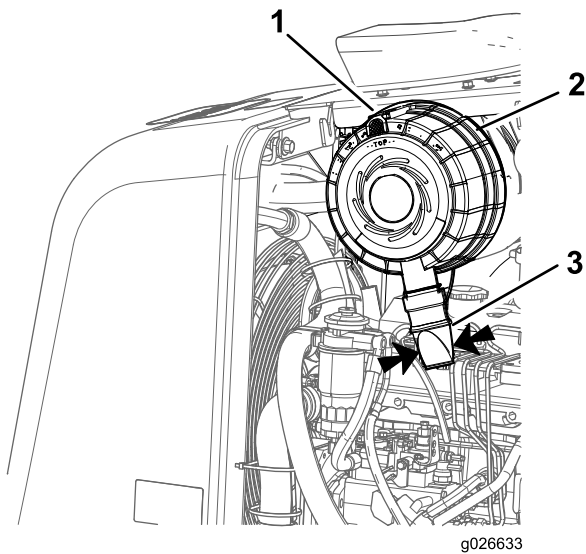

Figure 45
Squeeze the sides of the dust valve to release any collected water, dust, or dirt from the valve (Figure 45).
2. Pull the latch for the air-cleaner cover outward (Figure 45).
3. Rotate the air-cleaner cover clockwise so that the dust cap is at the 8 o'clock position (Figure 45).
4. Push the latch for the air-cleaner cover inward until the cover is fully seated (Figure 45).